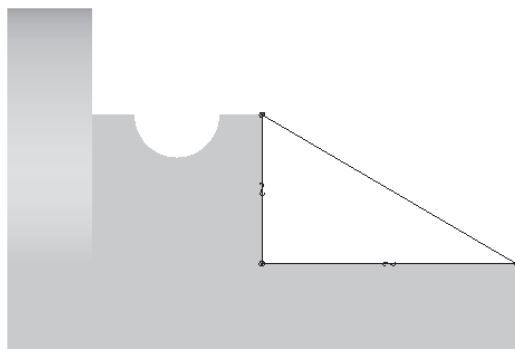

Figure 4-88 Sketch and constraints for the last feature
1. Draw the section sketch using various sketcher tools, as shown in Figure 4-88. The sketch is dimensioned automatically and some weak dimensions are assigned to it. You can add the required constraints to align the lines and points in the sketch with other features, as shown in Figure 4-88. In the figure, the constraint symbol displayed on the line indicates that the edges of the adjacent features are used to close the section.